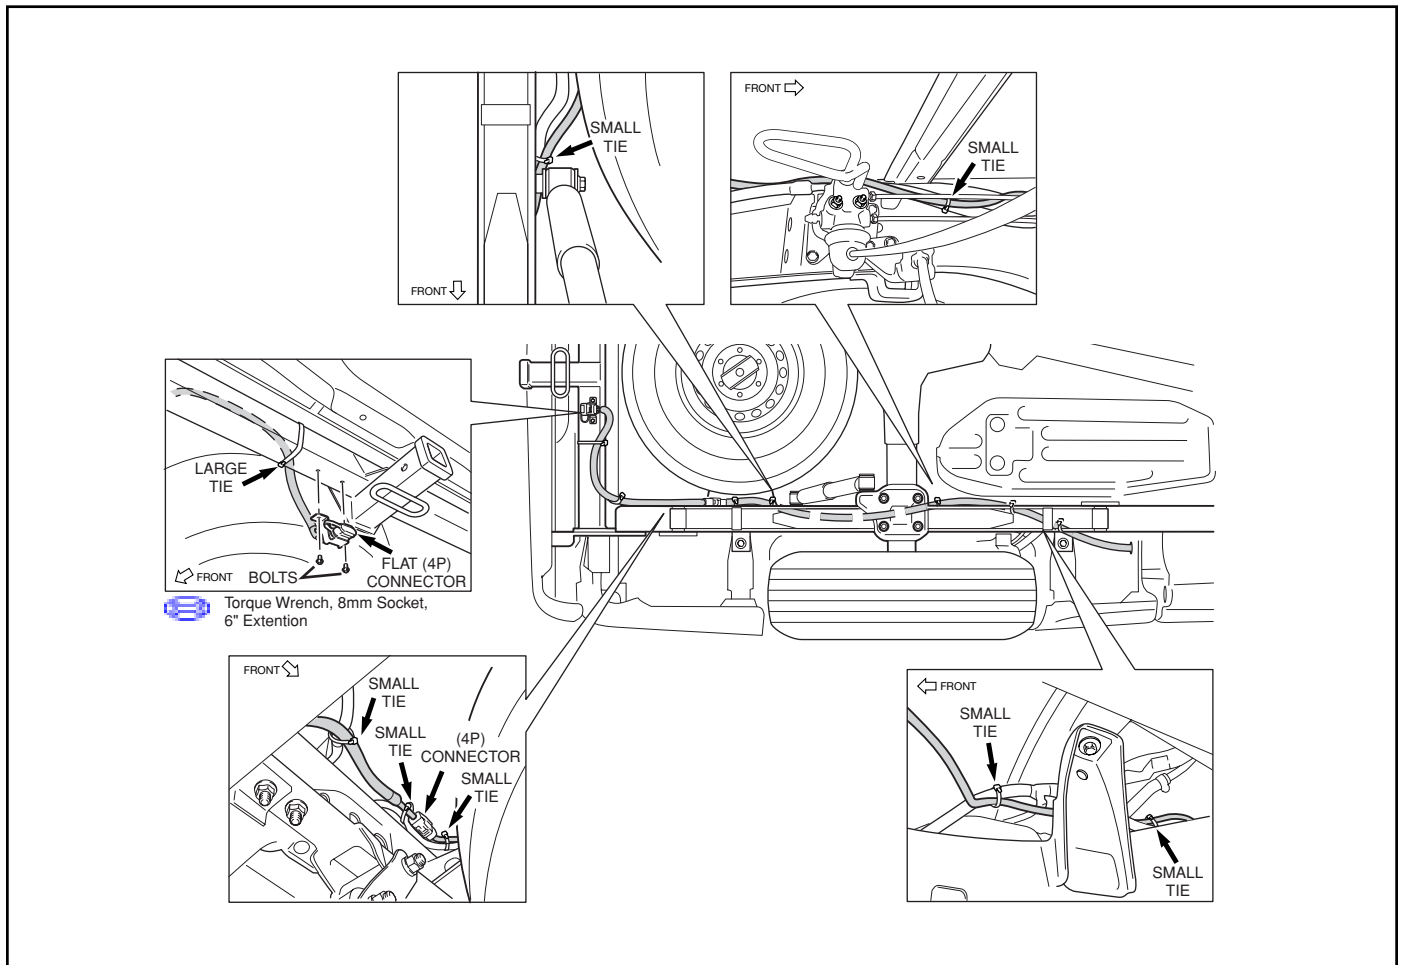

Fig. C8
- ➔ i. Route and secure (4P) wire harness and sub wire harness with plastic ties as shown. (Fig.C8)
- ➔ ii. Fasten flat (4P) connector with 2 bolts (included in kit). Torque bolts to 3.9 N•m [40 kgf•cm, 36 lbf•in]. (Fig.C8)